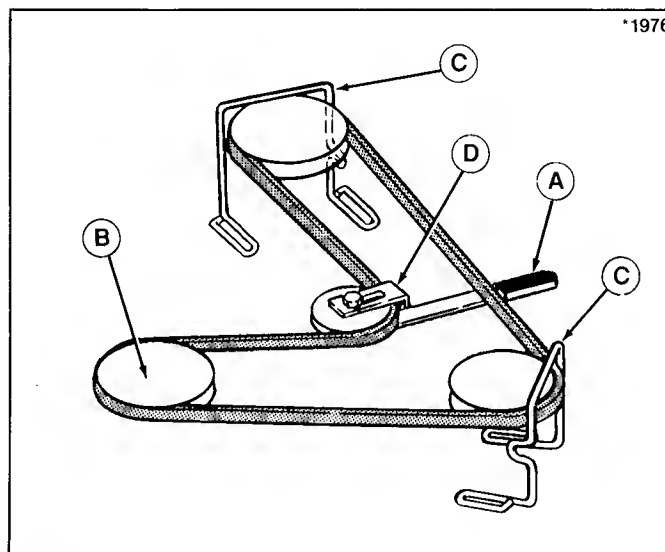

Figure 25.
2. If mower is not removed, place mower in low cut position. Push idler pulley arm (A, figure 25) away from you to relieve belt tension. Drop belt from electric clutch pulley (B).
3. Loosen belt stops (C) on arbor drive pulleys.
4. Loosen bracket belt stop (D) on idler pulley.
6. Position the bracket belt stop (D) up against arm (A) so that there is a 1/8" gap between pulley and belt stop.
7. Retighten the belt stops (C) on arbor drive pulleys with 1/8" gap between stops and pulleys.
8. Reinstall mower if removed, or reinstall belt to electric clutch pulley (B).